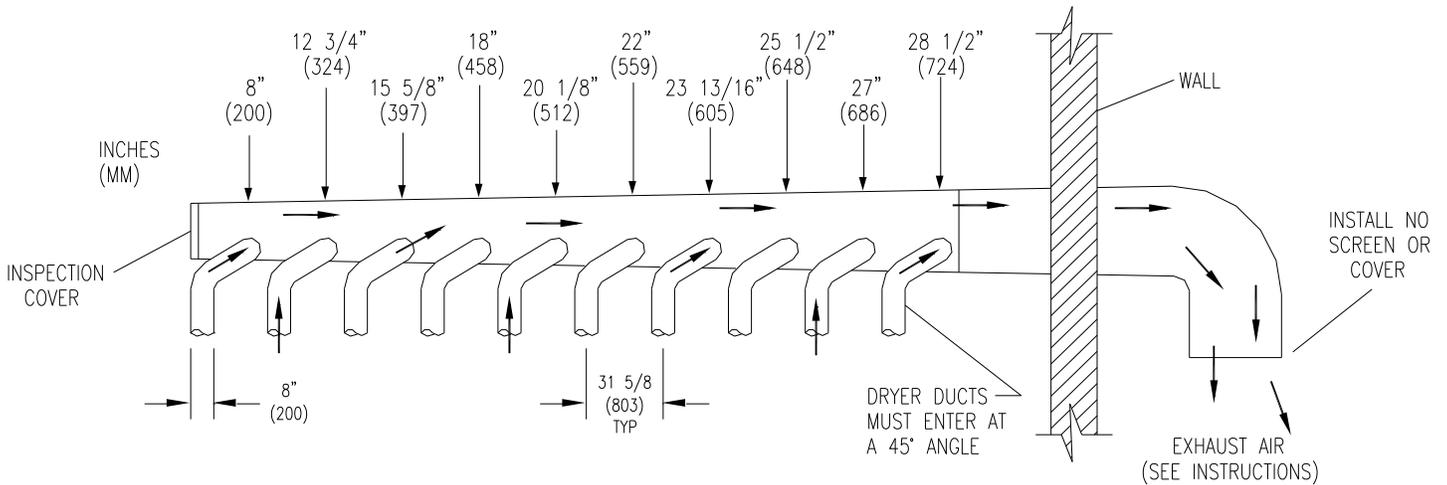

FIGURE 3- Dryer Exhausting Using A Main Discharge Duct.
6. **EXHAUST INSTALLATION.** (Refer to Figure 3 at the end of section 6.) Exhausting of the dryer(s) should be planned and constructed so that no air restrictions occur. Any restriction due to pipe size or type of installation can cause slow drying time, excessive heat, and lint in the room.
Installation of several dryers, where a main discharge duct is necessary, will need the following considerations for installation (see Figure 3). Individual 8" exhaust ducts from each dryer should enter main discharge duct at a 45-degree angle in the direction of discharge airflow.
NOTE: Never install the individual ducts at a right angle into the main discharge duct. The individual ducts from the dryers can enter at the sides or bottom of the main discharge duct. Figure 3 indicates the various round main duct diameters to use with the individual dryer ducts. The main duct can be rectangular or round, provided adequate airflow is maintained. The total exhausting (main discharge duct plus duct outlet from the dryer) should not exceed the equivalent of 14 ft. (4.25 m) and two elbows. The diameter of the main discharge duct at the last dryer must be maintained to exhaust end.